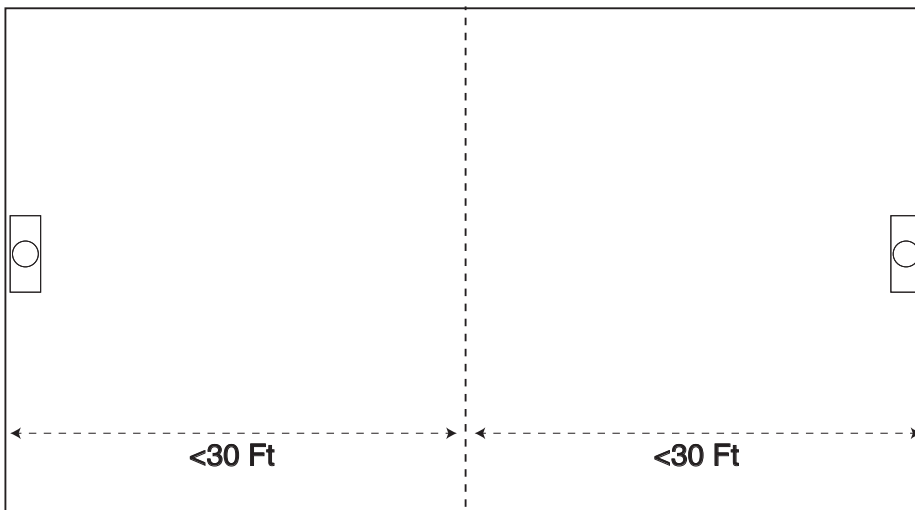

Fig. 5 - 30 ft (9.1m) Limit of DV Diffuser
2. Each diffuser is capable of delivering conditioned air up to 25 - 30 ft (7.6 - 9.1 m) from the diffuser face. If the space is more than 30 ft (9.1 m) in length or there is more than 30 ft (9.1 m) between diffusers, consider adding another diffuser on the opposite wall or centered between diffusers for increased system performance (see **Fig. 5**).